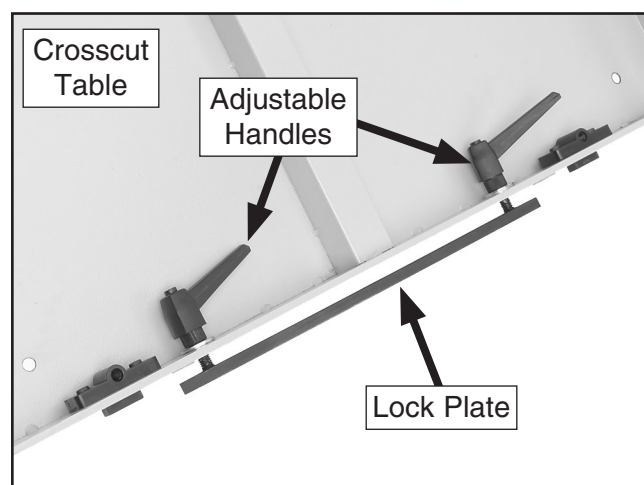

Figure 42. Adjustable handles threaded into lock plate to prepare for crosscut table installation.
1. Thread the adjustable handles, with 10mm flat washers, two or three turns onto the studs in the lock plate, as shown in **Figure 42**.